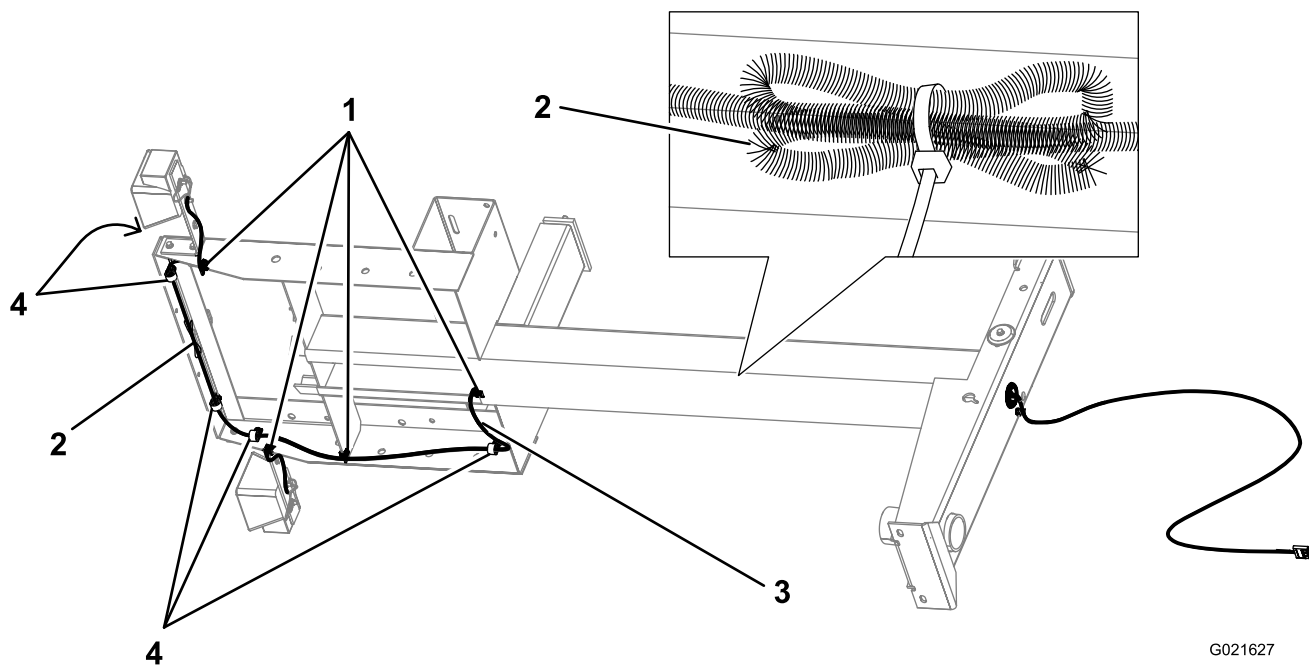
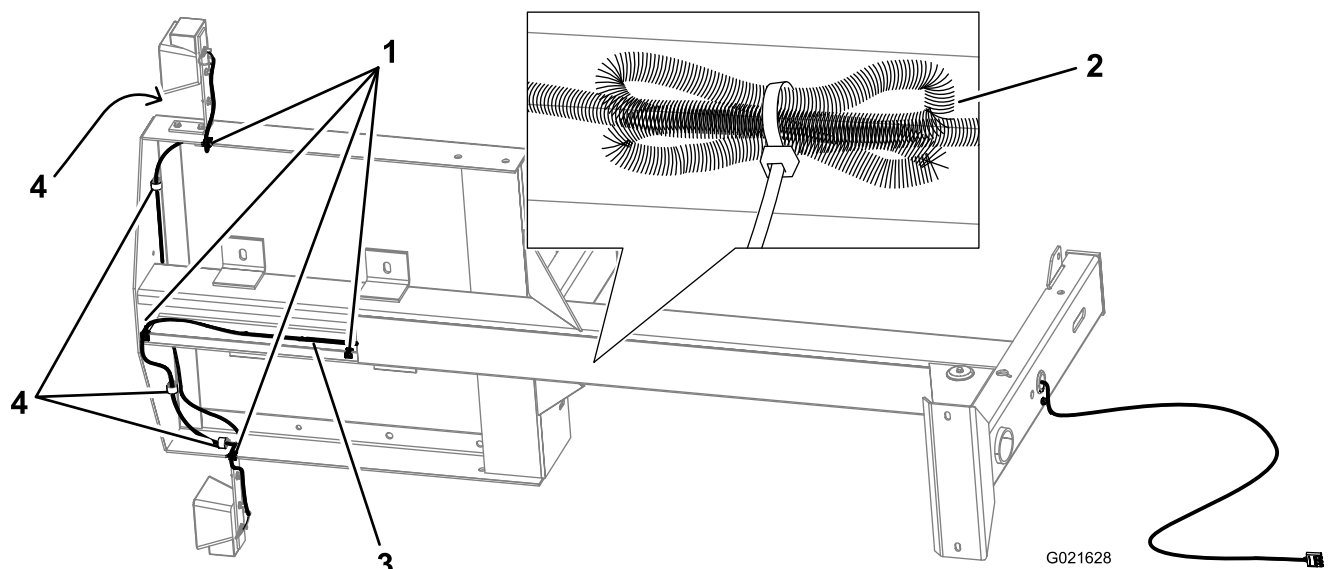

Figure 7
Figure 8
3. Route the wire harness as shown in Figure 4, Figure 7, or Figure 8, depending on the model.